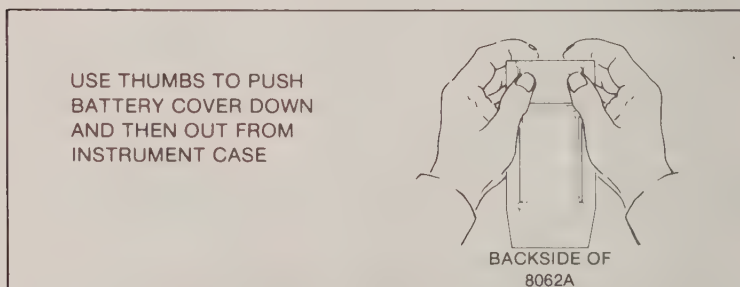

**Figure 2-1. Removal of Battery Compartment Cover**
3. Turn the instrument over and use your thumbs to pry off the battery cover as shown in Figure 2-1 (push cover down and then out).